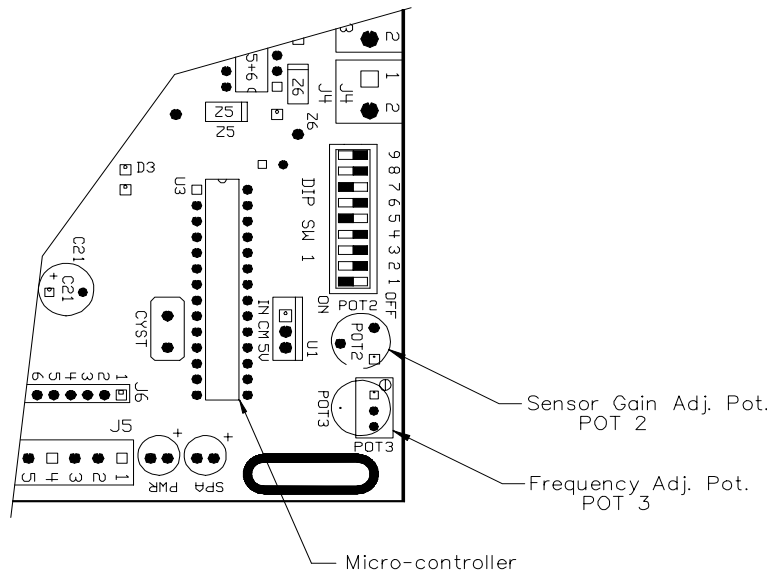

Figure 7: Sensor Gain and Frequency Adj. Pots Locations
**POT3** adjusts the frequency in 1/8 Hz increments. Adjust **POT3** (*Figure 7*) to sweep within the selected frequency range, until the correct startup (*drive*) frequency is found. The frequency will be displayed on the LCD display continuously until the setup procedure is completed.
POT3 adjusts the frequency in 1/8 Hz increments. Adjust POT3 (*Figure 7*) to sweep within the selected frequency range, until the correct startup (*drive*) frequency is found. The frequency will be displayed on the LCD Display continuously until the setup procedure is completed.